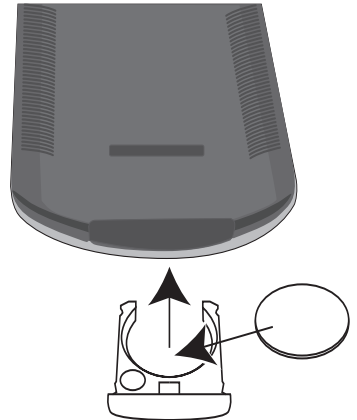

Figure 2
- Insert a CR2025 button-type battery with the “+” facing up. If the battery is inserted incorrectly, the remote control will not operate. See figure 2.